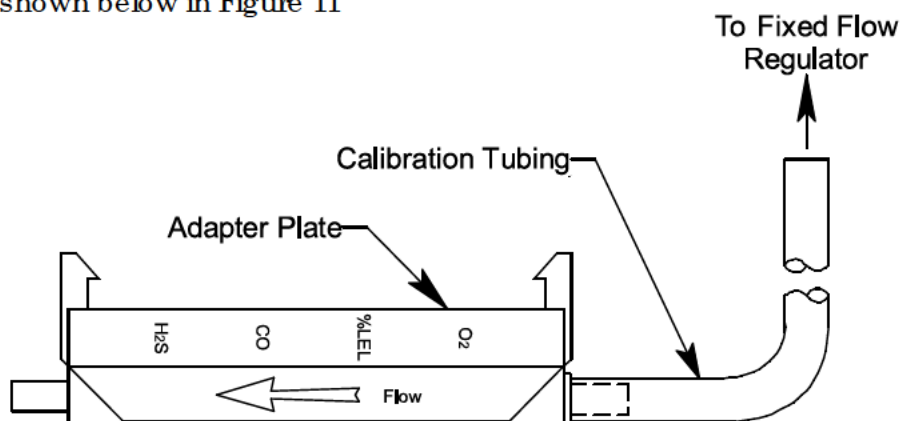

Figure 11 : Calibration Kit Assembly
4. Use the sample tubing to connect the calibration adapter plate to the regulator. Attach the tubing to the adapter plate on the inlet side as shown below in Figure 11